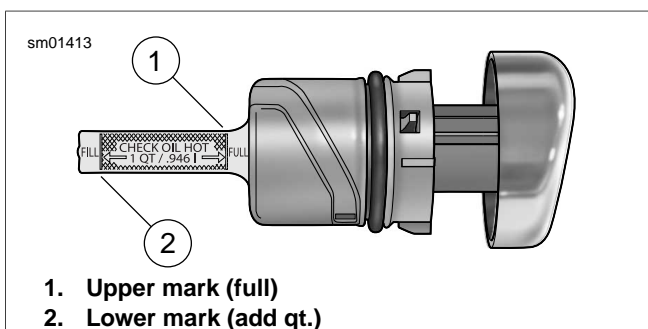

Figure 1-3. Oil Level Marks on Dipstick
3. Remove oil filler cap again and check oil level on dipstick. See Figure 1-3. Dipstick has two marks. If oil level is at or below lower mark (2), add only enough oil to bring the level to a point between the two arrows on the dipstick. Replace filler cap.
4. Remove filler cap again and check warm oil level on dipstick. See Figure 1-3. Dipstick has two marks. If oil level in tank is at or below lower mark, add 1.0 quart (0.946 liter) of Harley-Davidson oil to tank. Replace filler cap.